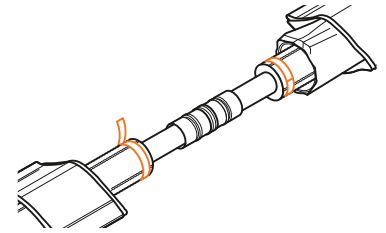

Fig. B11.1.4
4. Remove the protective foil (not transparent) from the adhesive bands. Wrap them around the entire circumference of the outer casing between the marked lines and outer casing ends on both pipes (Fig. B11.1.4).